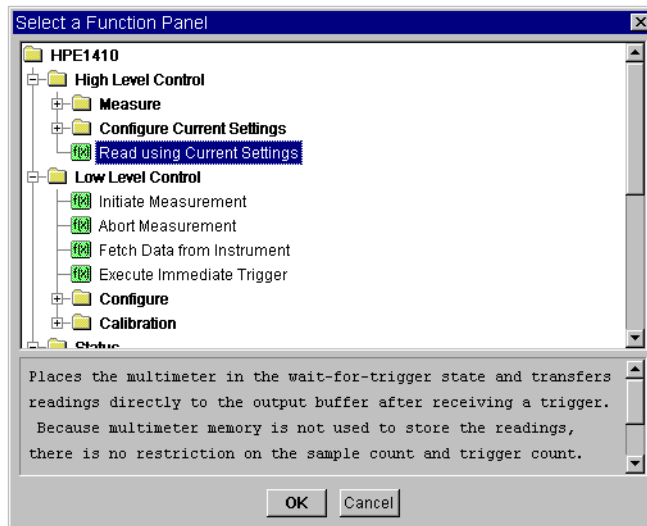

Figure 5-2. Select a Function Panel Dialog Box
1. Double-click on an empty transaction or select Add Trans or Insert Trans from the object menu. The Select a Function Panel dialog box appears. It displays function panels grouped into logical categories (such as Measure or Configure) as shown in Figure 5-2. Each driver has different categories.